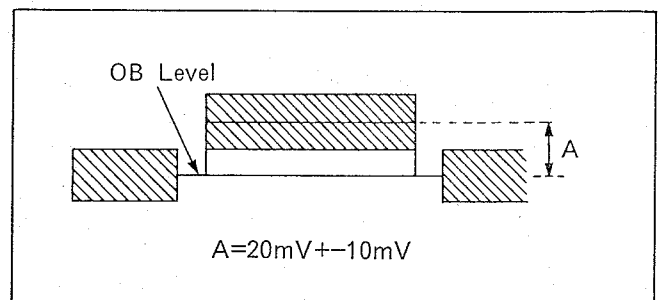

Fig. C25
8. Push "INC" or "DEC" so that A level at P701-15 becomes 20mV±10mV as shown in Fig.C25.